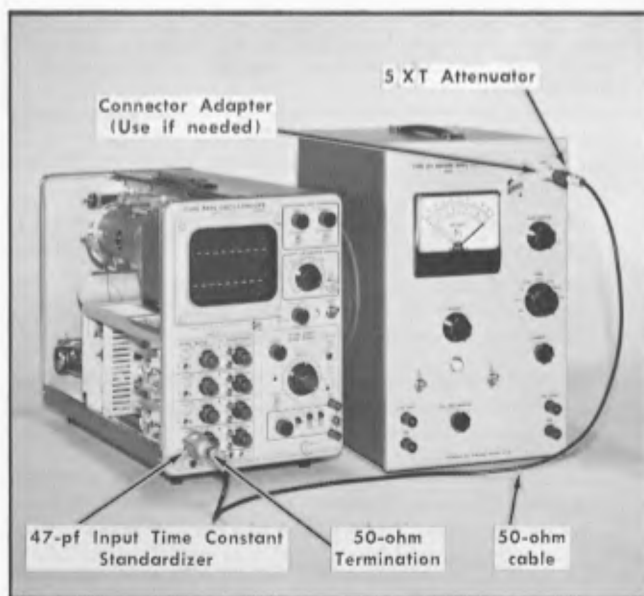

Fig. 6-5. The manner in which the Type 105 Square-Wave Generator should be connected to the Type 3A74 when preparing to adjust C416 (step 13f) in channel 4.
- d. Connect the other end of the standardizer to the channel 4 Input connector. Fig. 6-5 shows the entire setup.
After completing the channel 4 adjustments, decrease the Type 105 output signal level to minimum and apply the signal to channel 3. (Use the same setup as shown in Fig. 6-5
- Connect the plug-end of the termination to the channel 1 Input connector. (This setup is similar to Fig. 6-5 except the 47-pf Input Time Constant Standardizer is not used.)